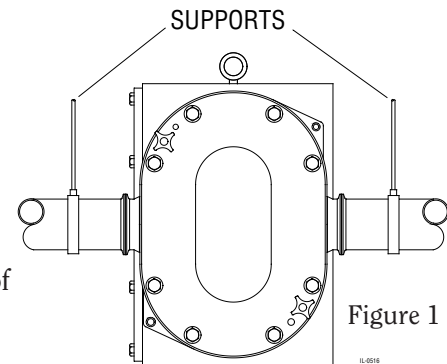

Figure 1
- Support all piping independently to minimize the forces exerted on the pump (Figure 1).